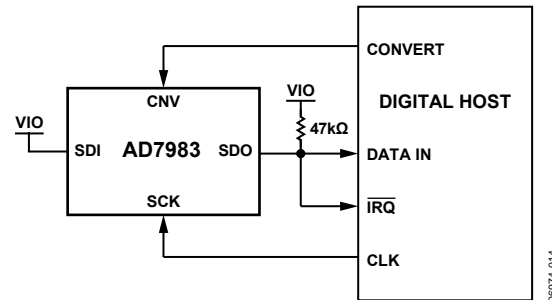
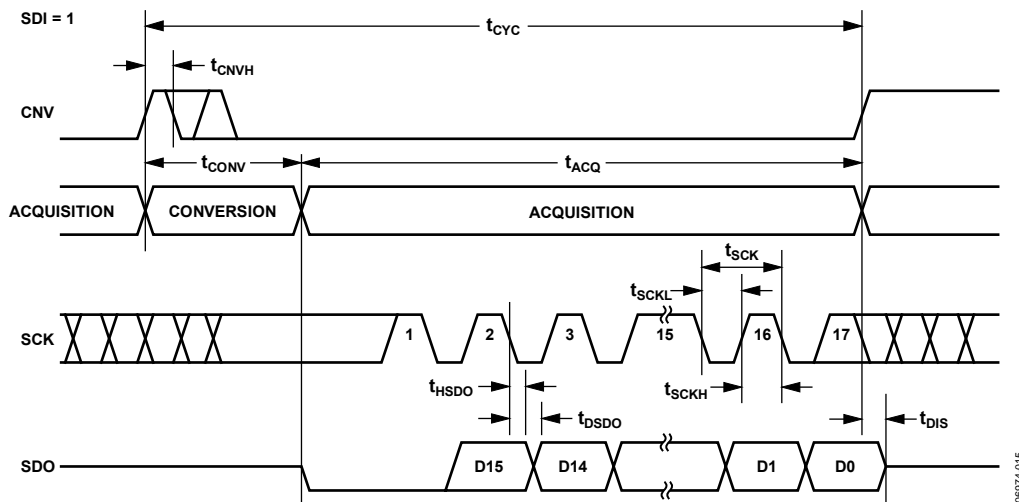
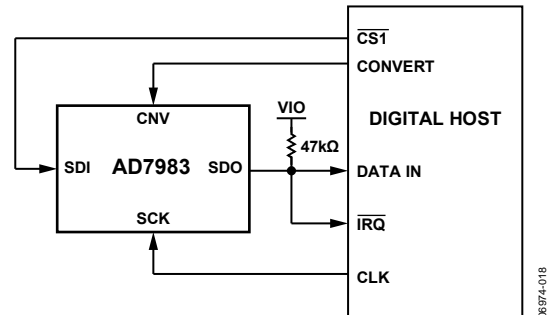
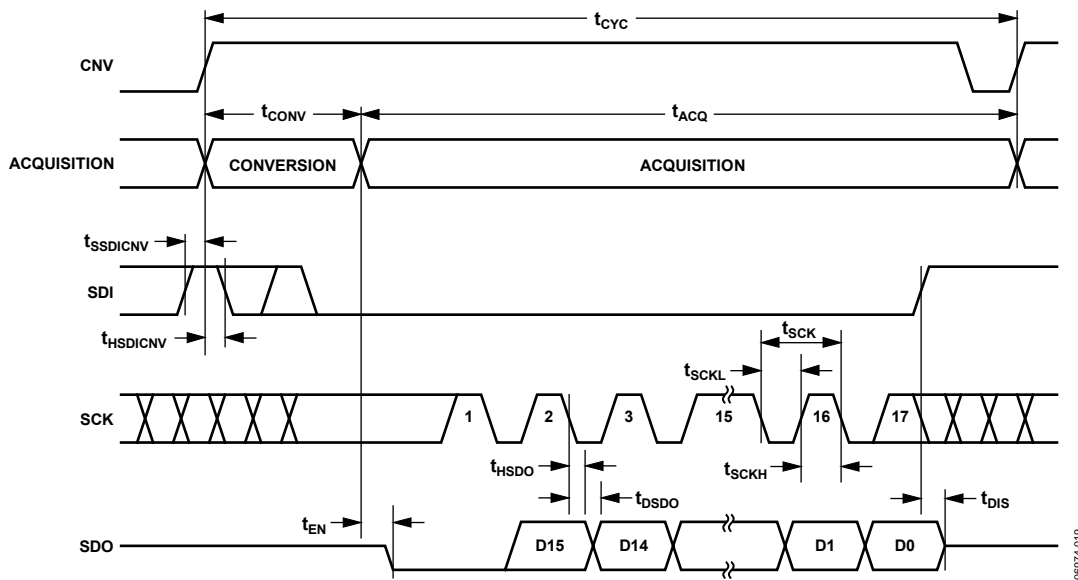

Figure 28.  $\overline{\text{CS}}$  Mode, 3-Wire with Busy Indicator Connection Diagram (SDI High)
Figure 29.  $\overline{\text{CS}}$  Mode, 3-Wire with Busy Indicator Serial Interface Timing (SDI High)
Figure 32.  $\overline{CS}$  Mode, 4-Wire with Busy Indicator Connection Diagram
Figure 33.  $\overline{CS}$  Mode, 4-Wire with Busy Indicator Serial Interface Timing
- In  $\overline{CS}$  mode if CNV or SDI is low when the ADC conversion ends (see Figure 29 and Figure 33).
The connection diagram is shown in Figure 28, and the corresponding timing is given in Figure 29.
The connection diagram is shown in Figure 32, and the corresponding timing is given in Figure 33.